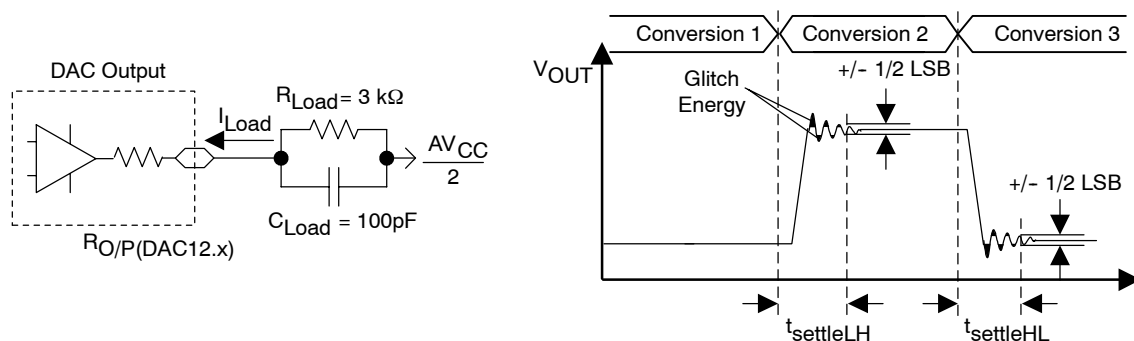
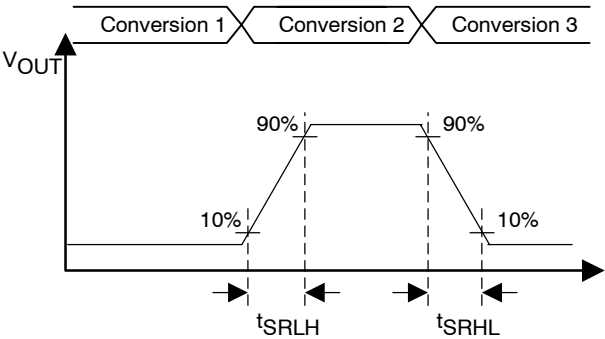

Figure 45. Settling Time and Glitch Energy Testing
Figure 46. Slew Rate Testing
12-bit DAC dynamic specifications, V_{ref} = V_{CC}, DAC12IR = 1 (see Figure 45 and Figure 46)
- NOTES: 1. R_{Load} and C_{Load} are connected to AV_{SS} (not AV_{CC}/2) in Figure 45.